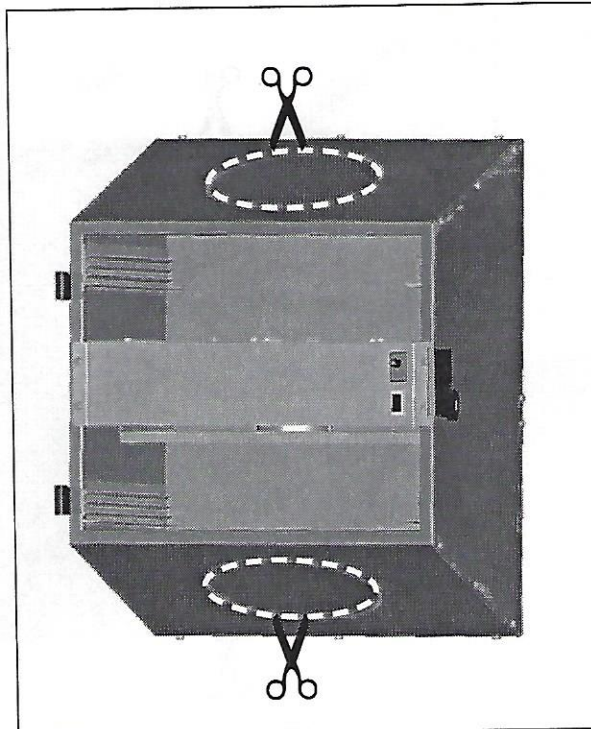

figure 1
- Step 1** - Use metal cutting shears to cut all the tabs around the top and bottom circle as illustrated below (fig 1). If necessary, remove decal to help follow the precut lines on the cabinet.